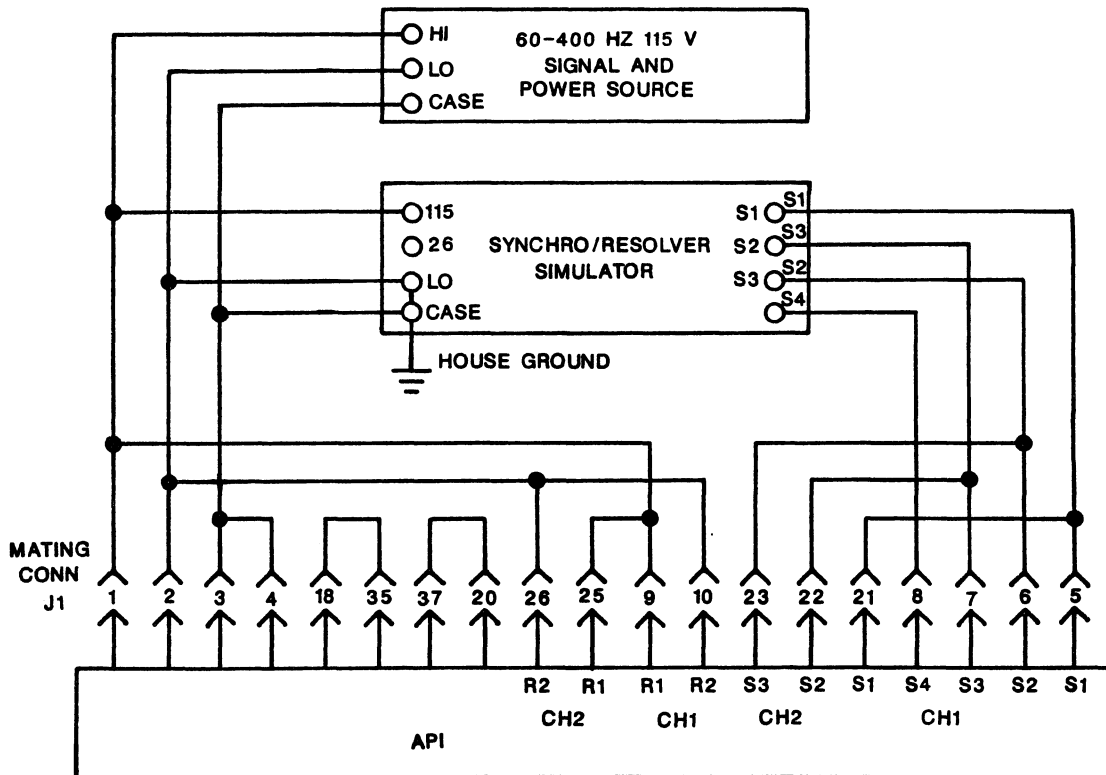

Figure 6-1. Performance Test Setup
- c. Verify that the mating connector has been wired for function to be tested. Refer to figure 6-1.
6-3.5 Performance Test Setup. Set up equipment as shown in figure 6-1 and perform the following:
- b. Setup equipment as shown in figure 6-1. Tie the auxiliary equipment to house ground at only one point to avoid ground loops.